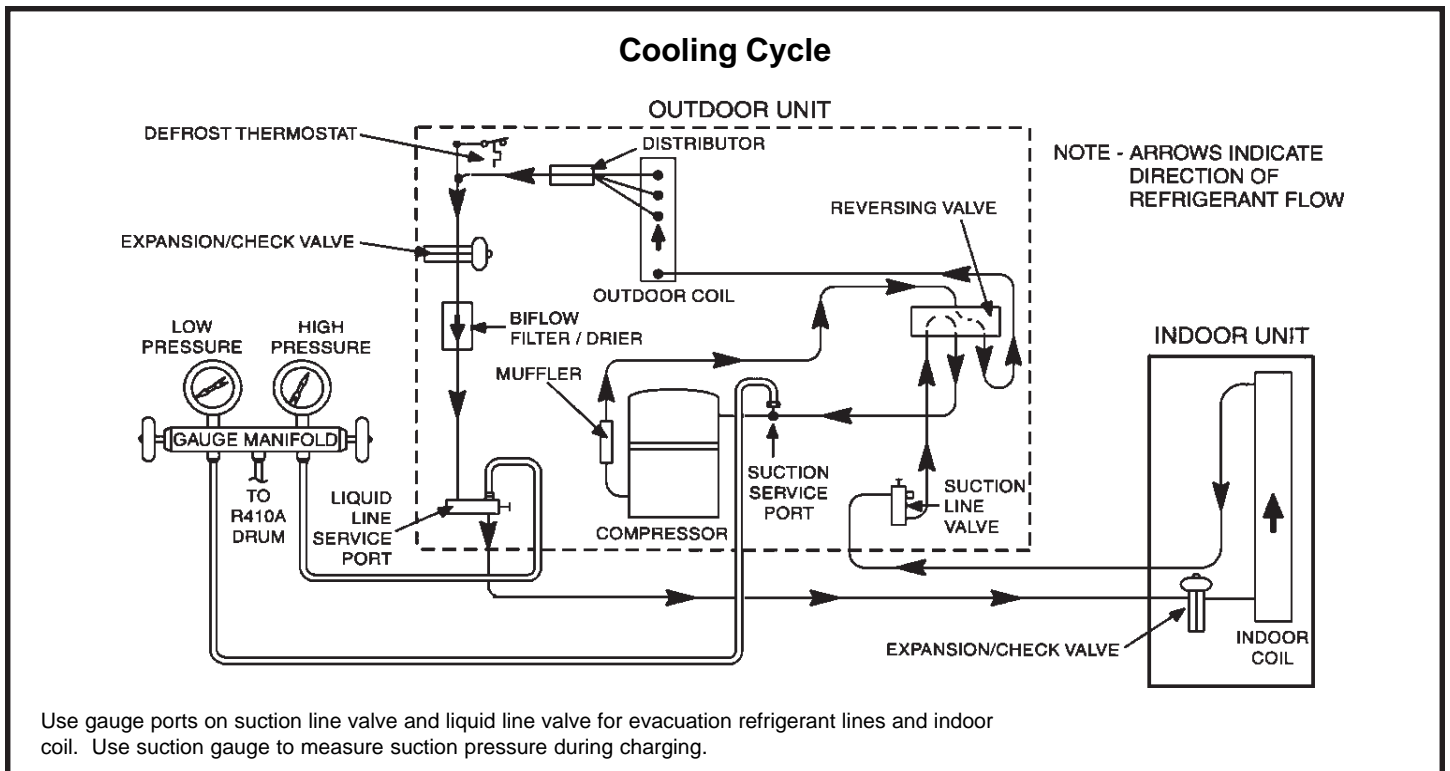

Figure 12
1. Connect the manifold gauge set to the service valve ports as follows (see Figure 12):